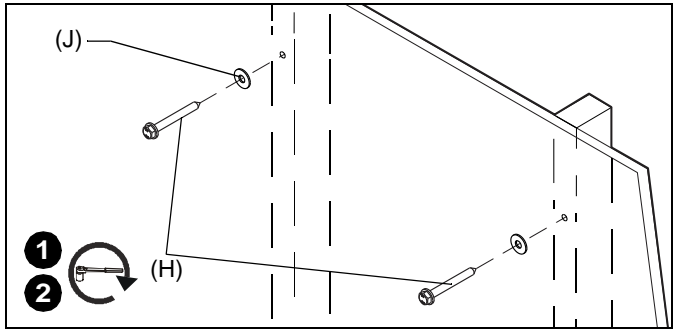

Figure 6
1. Use one 5/16" x 2-3/4" hex head lag bolt (H) through one 5/16" washer (J), the PSMH2860 and into pilot hole. (See Figure 6)